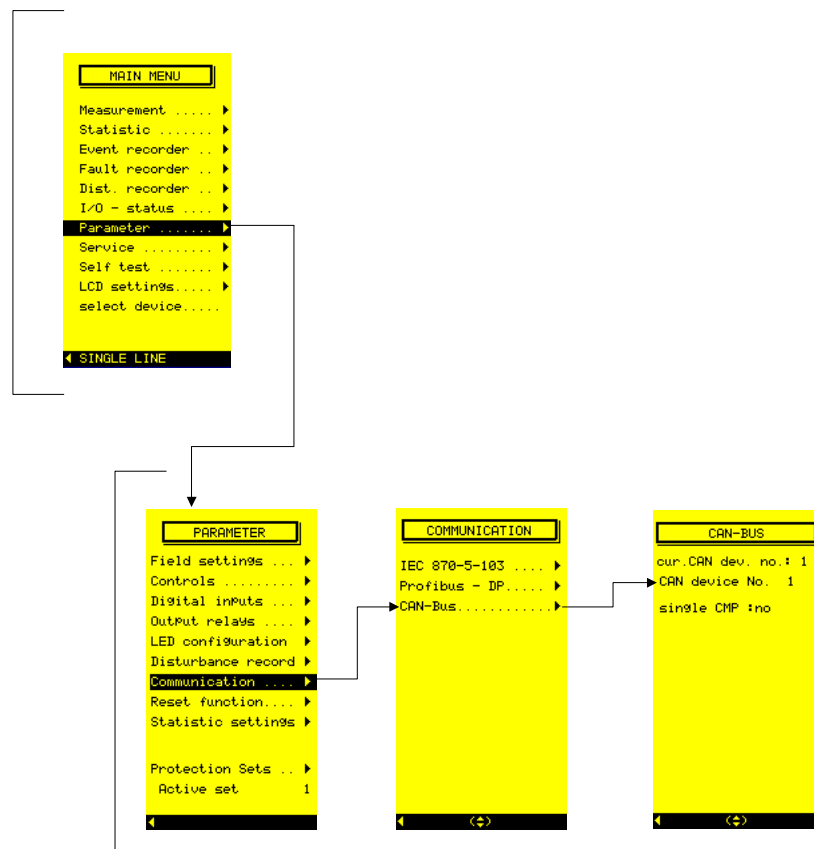

Figure 10.4: Multi-unit communication – Settings in the CSP
As a rule, one *CMP* is connected to each *CSP* so that the parameter »single *CMP*« must be set to »no« (refer to Figure 10.4).
- The »CAN Device No.« is adjusted in the menu »DATA/Communication/CAN« (of the *CSP*) (see Figure 10.4). By pressing the »Enter« key and then »Arrow« right the settings of the unit are taken over. The systems then boot again. During commissioning it must be ensured that each system (*CSP* and *CMP*) is assigned a different »CAN Device No.« (standard setting »1«) and that the correct cables are used.